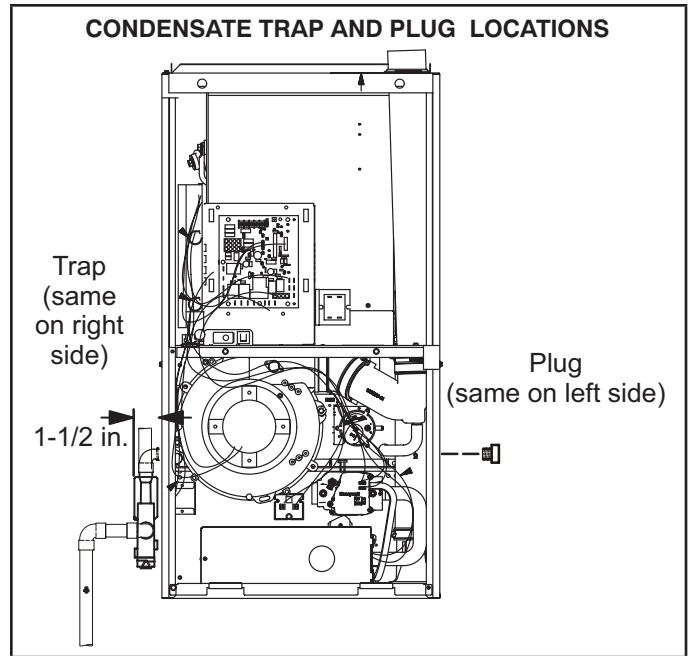
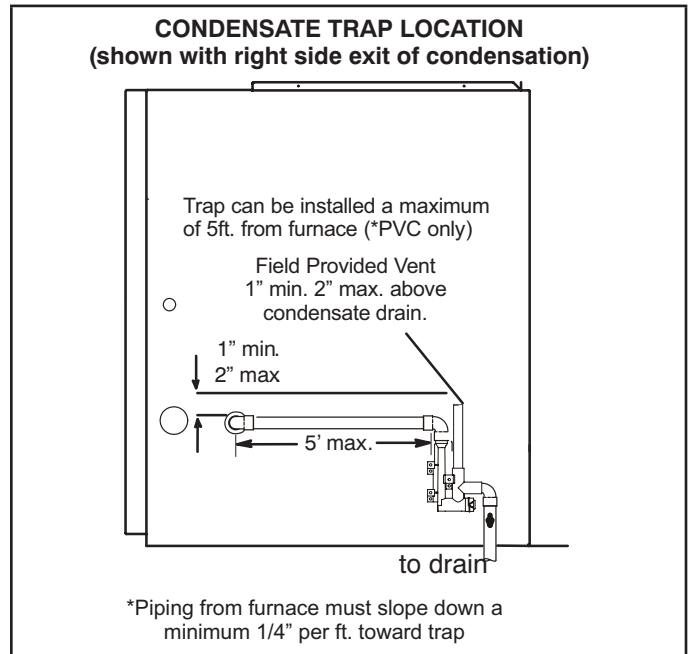

FIGURE 45
FIGURE 46
This unit is designed for either right- or left-side exit of condensate piping. Refer to FIGURE 45 and FIGURE 46 condensate trap locations.
- 2 - For furnaces with a 1/2" drain connection use a 3/8 allen wrench and remove plug (FIGURE 45) from the cold end header box at the appropriate location on the side of the unit. Install field-provided 1/2 NPT male fitting into cold end header box. For furnaces with a 3/4" drain connection use a large flat head screw driver or a 1/2" drive socket extension and remove plug. Install provided 3/4 NPT street elbow fitting into cold end header box. Use Teflon tape or appropriate pipe dope.